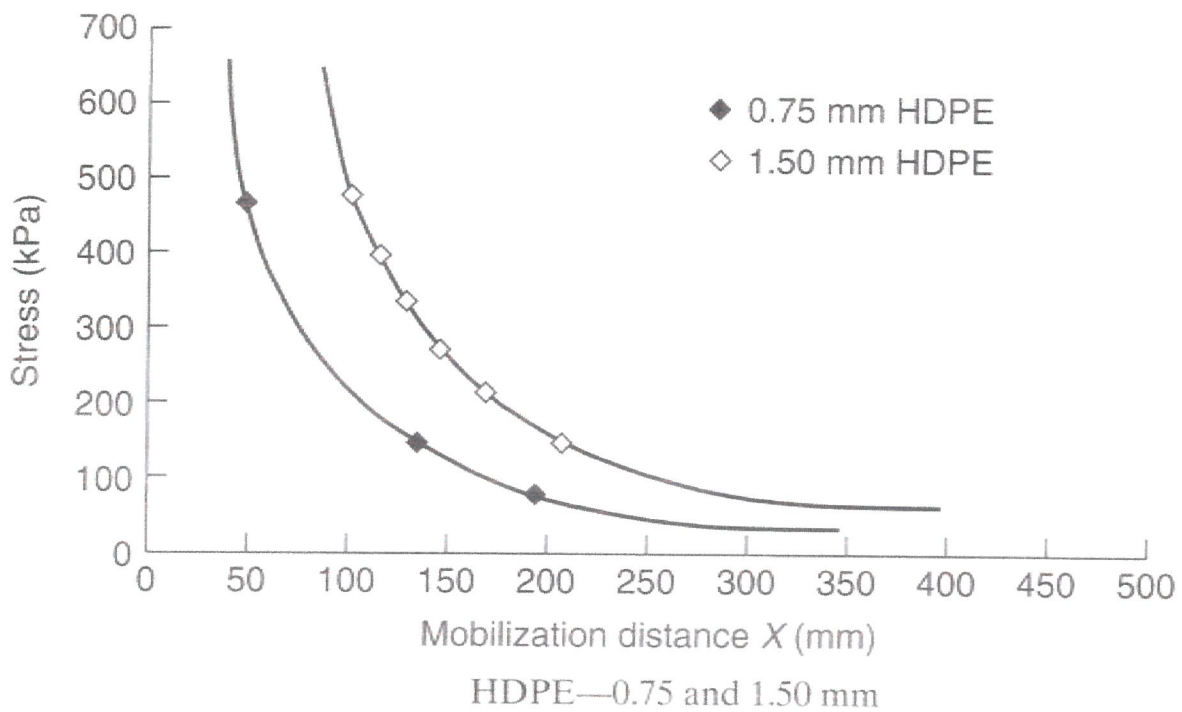

FIGURE Q1: Embedment depth curves versus applied normal stress for HDPE
- Embedment depth curves versus applied normal stress for HDPE is illustrated in **Figure Q1**